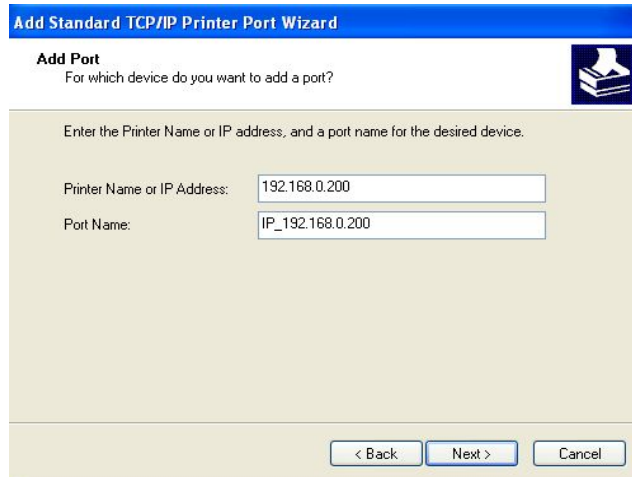

Figure 5.3.6
6) The default contents (see Figure 5.3.6), and click “Next”;